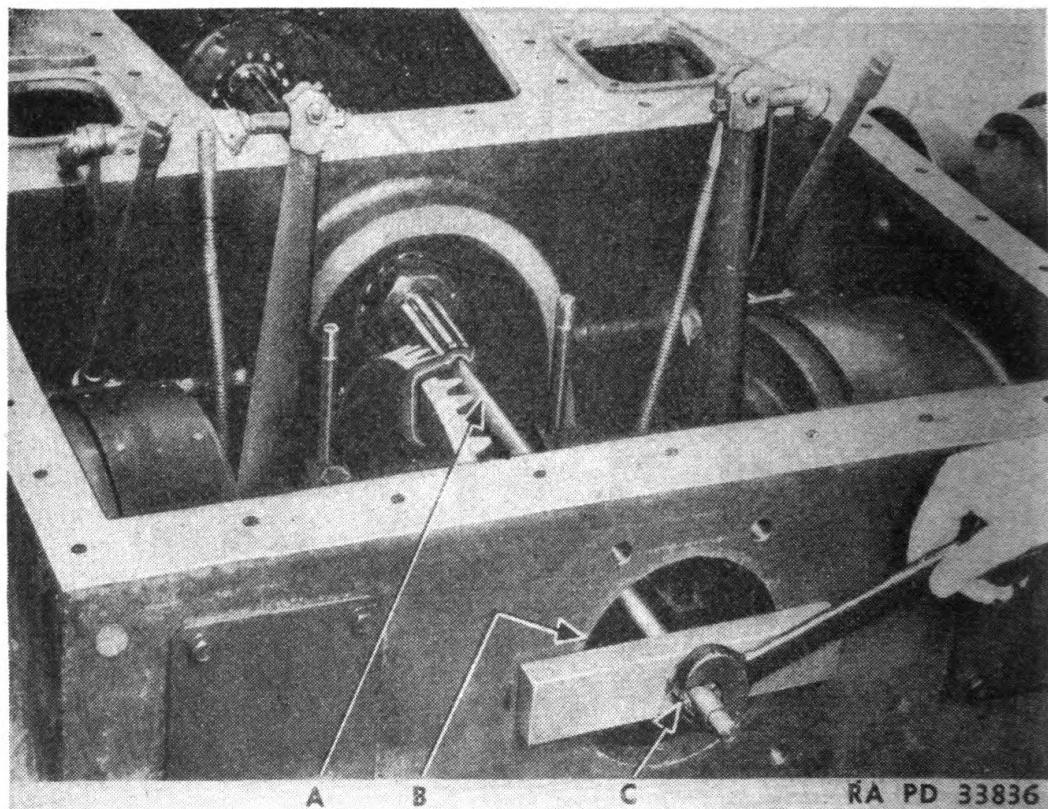

FIGURE 120.—Second method of upper transmission shaft removal.
(2) If the rear drive attachment is removed, the upper shaft can be pulled from the rear (fig. 120) by using CAT2B6946 stud (A), CAT2132A bar (B), and CAT2580A nut (C).